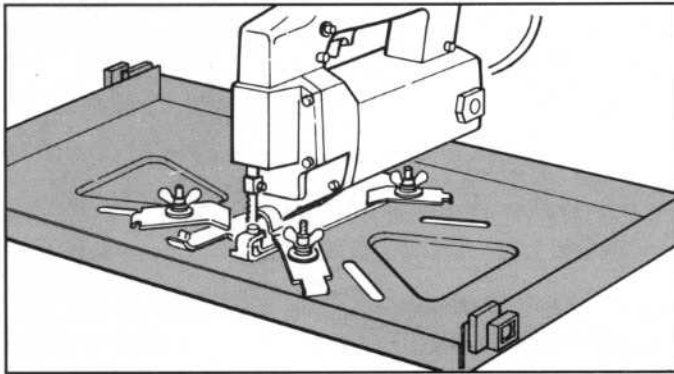

FIGURE 27
To fit your jigsaw to the mounting plate use the medium length coach bolts supplied, and only use the top clamps (W) as shown in **Figure 27**. Use the large washers, spring washers and wing nuts as illustrated.